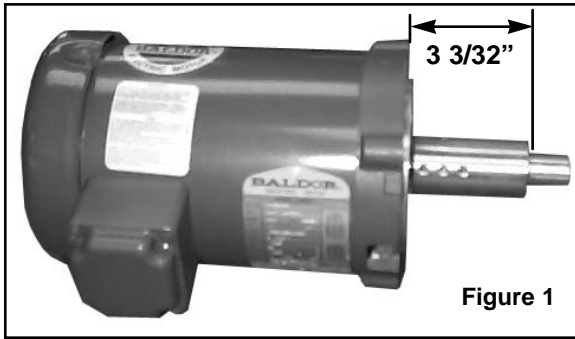

Figure 1
- B.) Position stub 3 3/32" from Motor C face. See Figure 1.